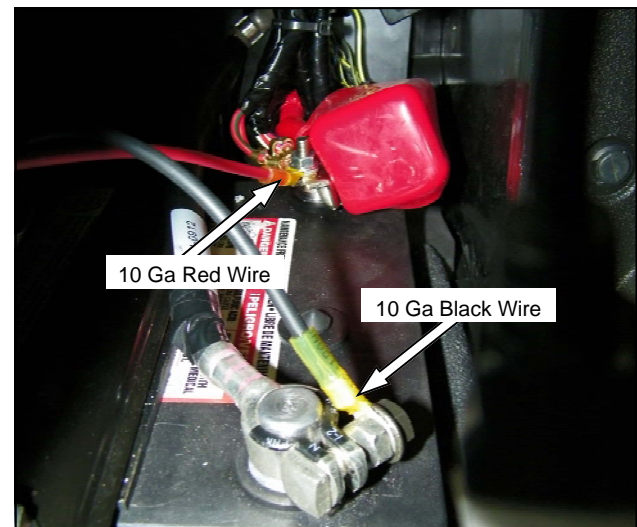

Fig. 7
- Attach 10 Ga. Black ground wire to the 1/4"-20 x 1" long hex head cap screw used to attach 10 Ga. Black wire from battery harness. Attach solenoid to vehicle frame by passing hex head screw through the hole unplugged in step 5 and secure with 1/4"-20 hex nut. As shown in figure 7.